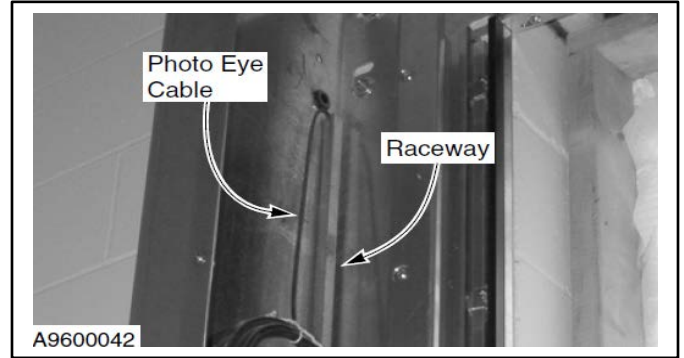

Figure 67
2. Each cable has been routed up through a vertical raceway located in the corner of the side column. Locate the free end of each photo eye cable. (See Figure 67.)